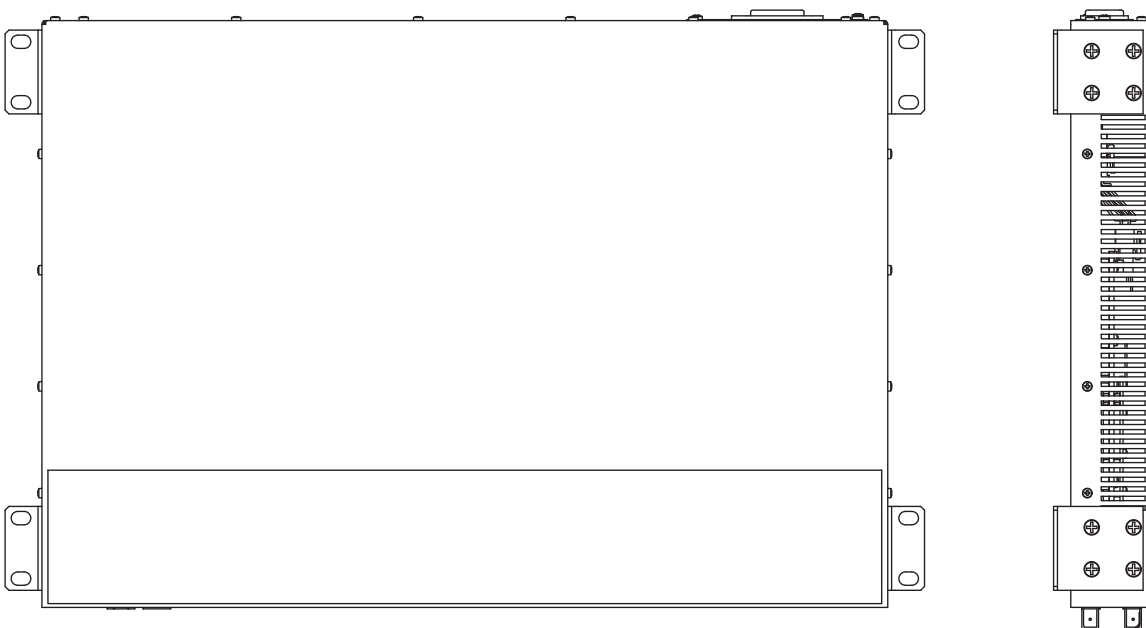

Figure 16: Vertical mounting on the wall
- Use the pre-mounted brackets included in the delivery as shown in the following figure (see fig. 16).
- Attach two additional brackets to the device (see on (see on page 38 „Accessories“), not included in the delivery) as shown in the following figure (see fig. 16).